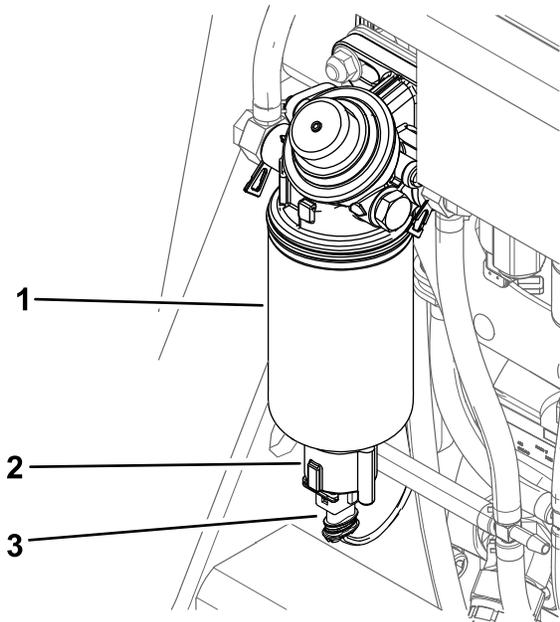

Figure 59
6. Disconnect the wire harness from the water separator (Figure 59).
7. Unscrew the switch from bottom of the filter canister and allow the water to drain (Figure 59).
8. Install the switch (Figure 59).
9. Connect the wire harness to the switch (Figure 59).
6. Unscrew the switch and drain the water separator (Figure 59).